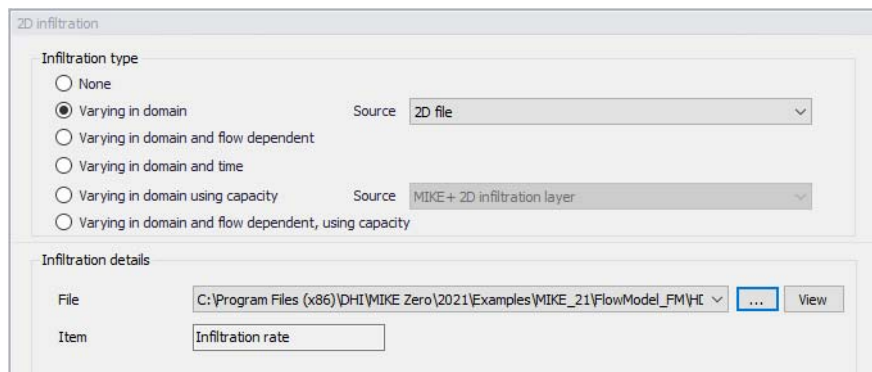

Figure 4.48 Point to a 2D infiltration file under the Infiltration details section on the editor
- File: A drop-down list of valid 2D background layer files on the Map. A file is valid if it is a \*.DFS2 or \*.DFSU file with Item type = 'Infiltration', 'Seepage', or 'Recharge' (Figure 4.48).